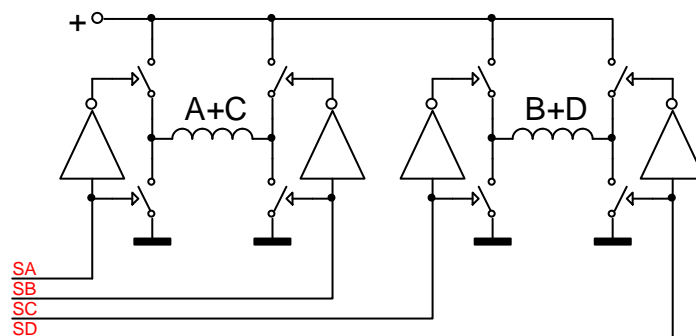

Figure 3: The connection of a four-wire stepper motor
- There is also the second, stronger version which has two diagonally positioned electromagnets connected together, giving altogether **four wires** to drive two pairs of electromagnets. The connection of such motor is shown in Fig. 3. Such connection requires more elaborate combination of switches called “a bridge connection” and the current can flow in one of two possible directions through each of the two electromagnets. The chip included on the test board can drive any version of a motor and since the sequence of numbers needed to rotate this version is the same as above we will not elaborate here anymore. The only thing to emphasize is that both electromagnets are conducting current permanently in this motor; only the direction of current changes to move the rotor. This results in the best utilization of the space inside the motor and maximum torque.